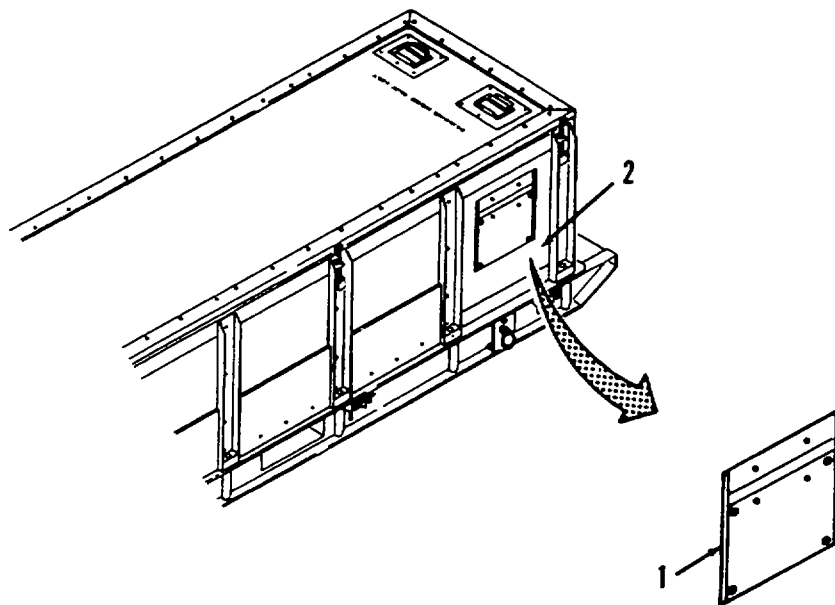

Figure 4-2. Document Pouch Replacement.
a. Removal. (Refer to Figure 4-2.) Remove document pouch (1) from side panel assembly (2) by unsnapping pouch from snap fasteners on side panel assembly.
(1) Remove all build up of dirt, oil, and debris from all metal surfaces.